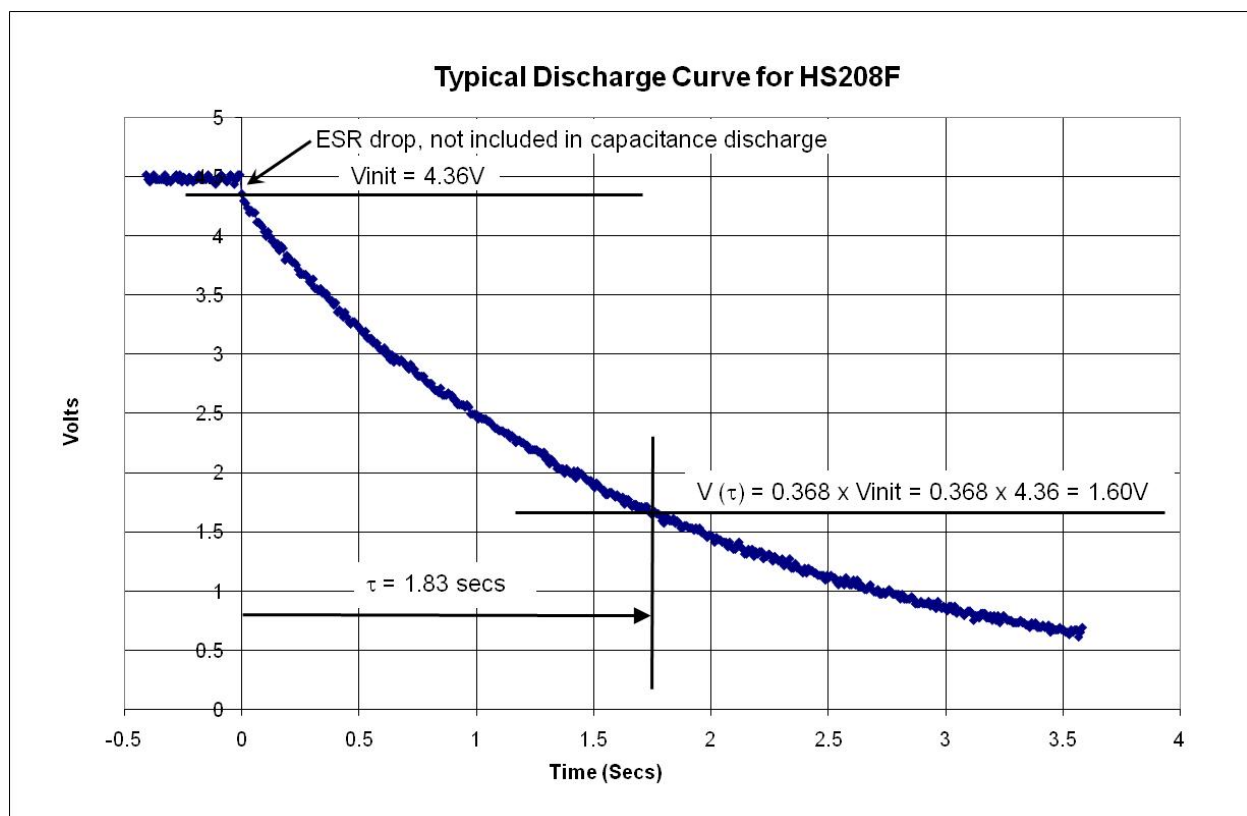

Fig 3: Discharge for Capacitance Measurement
Refer to the waveform in Fig 3 for the steps 8 – 11.
- For measuring capacitance, initial voltage, $V_{INIT} = V_{RATED} - \Delta V_{ESR}$. Use the cursor on the oscilloscope to determine this value. In Fig 3, this is 4.36V.
- After one time constant, the capacitor voltage would be, $V(\tau) = V_{INIT} \times 0.368$ Volts. In the example of Fig 3, this = 4.36V x 0.368 = 1.60V.
- Using the cursors, find the time (τ) at which the capacitor voltage = $V(\tau)$. In the example of Fig 3 this = 1.83 secs.